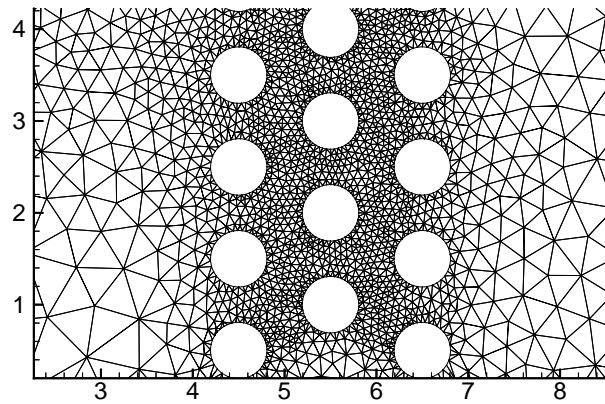
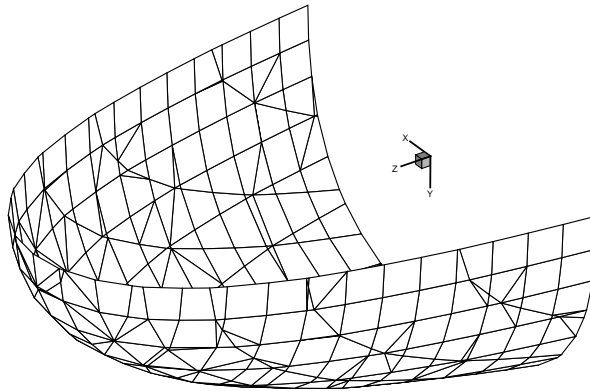

Figure 4-15. Mesh plot of finite-element surface data in two dimensions.
Figure 4-16. Mesh plot of finite-element surface data in three dimensions.
4.3.2.1. Finite-Element Surface Data. Plotting the connecting lines between finite-element surface data points in a two-dimensional coordinate system results in a mesh like the one shown in Figure 4-15. Plotting a finite-element surface mesh in a 3-D coordinate system results in a mesh like that shown in Figure 4-16.